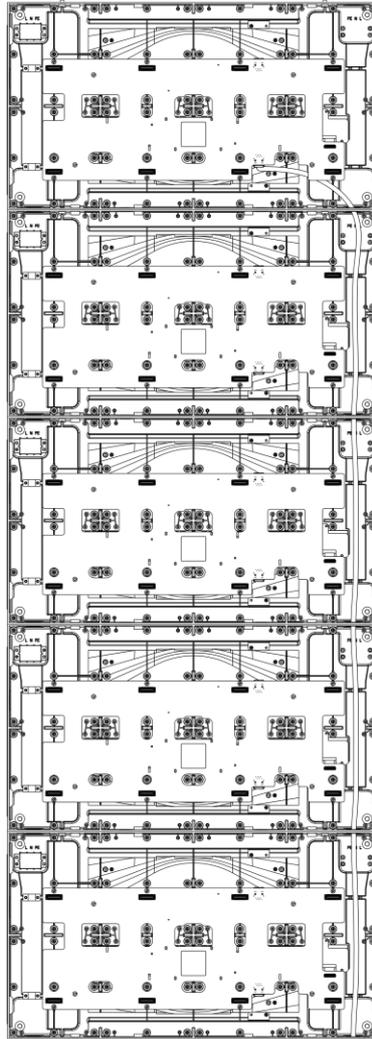

Figure 3-25 Network Cable Connection of the 5th Row
1. According to the network cable connection method in ***Figure 3-25*** diagram, connect the network cables from 1 to 4 rows.